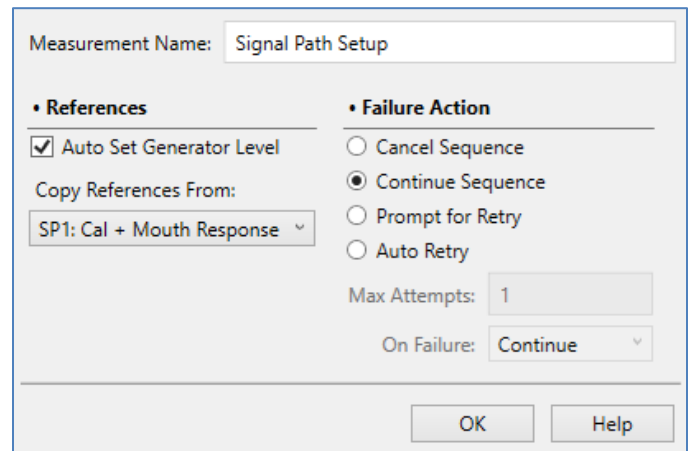

Figure 12. Measurement Sequence Settings for Signal Path Setup in the signal path SP2: EQ Mouth.
- The Measurement Sequence Settings node of Signal Path Setup is configured to copy references from the first signal path (Figure 12). This ensures that the microphone calibration and acoustic output sensitivity are set correctly for measurements here.
- The Auto Set Generator Level checkbox in Measurement Sequence Settings (Figure 12) is also checked, to re-run the output regulation, because sometimes, applying the EQ requires that the output sensitivity be re-measured.